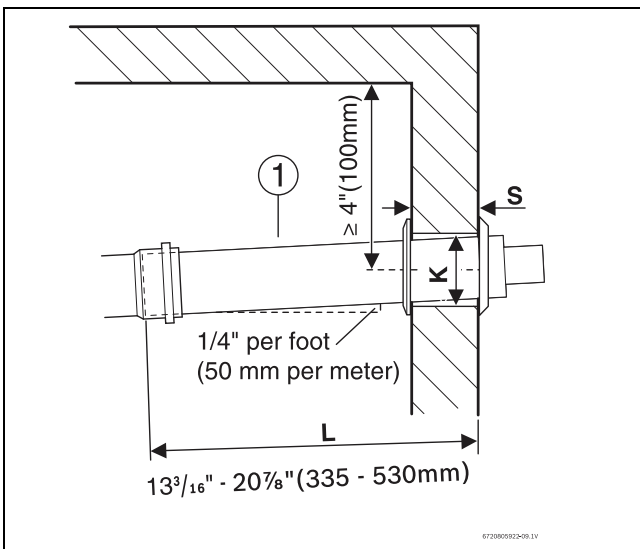

Fig. 7 Penetration through the outside wall
- ▶ Ensure all components are properly connected and aligned, and that the termination has the proper pitch as shown in Fig. 7.
- ▶ The entire termination can now be rotated left or right $\pm 40^\circ$ to redirect the plume (\rightarrow Fig. 7).